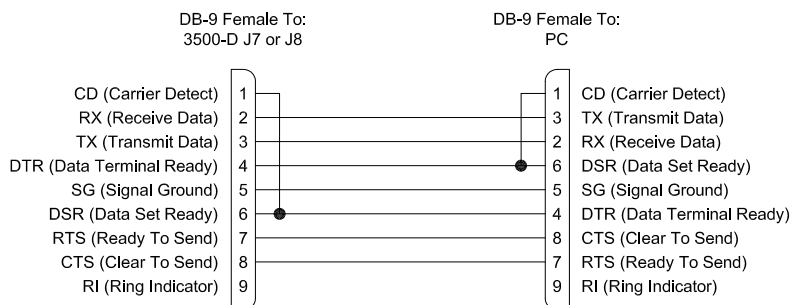

Figure 23. 3500-D RS-232 Null Modem Cable
- COM 1 is the primary RS-232 CPU link and is connected to the PC running Win3500 Control System software with a null modem cable (Part No. 81-9028-0393-0) constructed as shown in Figure 23. COM 1 may only be used with the P1E protocol at 9600 baud.